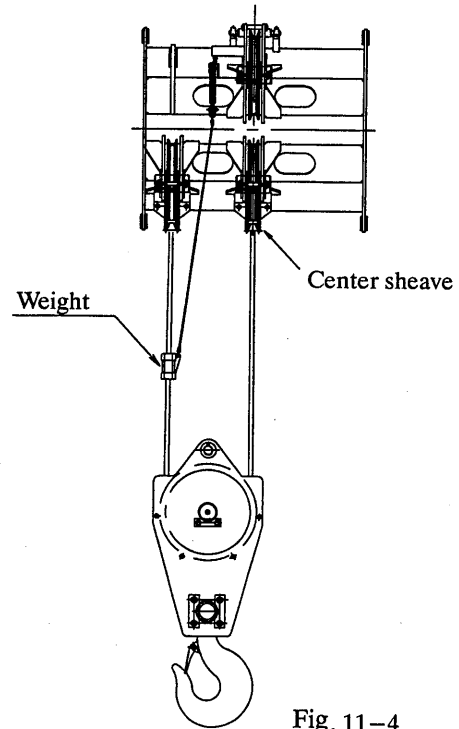

Fig. 11-4
(3) Install the hook overhoist preventive limit switch and weight to the auxiliary sheave tip bracket for crawler removal. Use a split cotter pin to prevent the coming-off of the shackles pin.
(4) Reeve the main winch wire rope through the hook and boom point sheave in order as shown in the right figure. Be sure to remember to reeve it through the weight for the hook overhoist preventive limit switch. (Fig. 11-4)